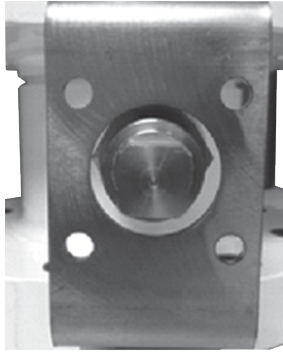

Figure 7. Coupler Installation for Size 3 in. Single and Double Flange Rotary Actuators
3. With the coupler and stub pinned together and the valve cam touching the valve stem turn the coupling counter clockwise 1/8 of a turn or until the flat of the coupling is square with the valve (see Figure 7).